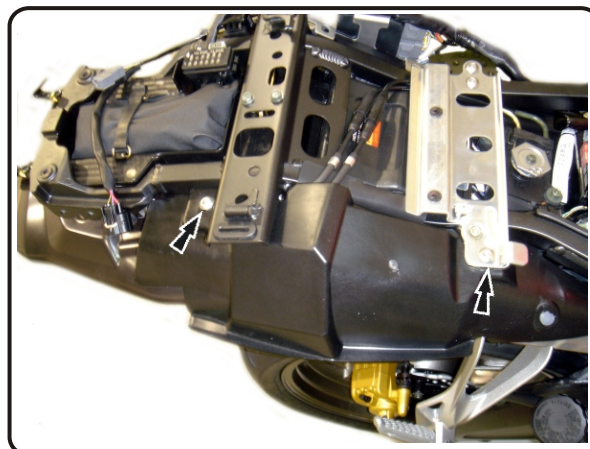

Fig. 6
- 6 Unbolt and remove black plastic tailpipe heat shield (See Fig. 6).